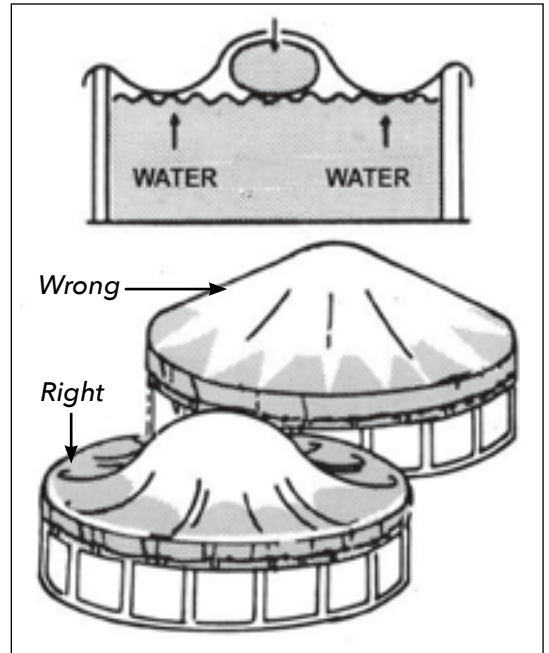

figure 1
2. Inflate ice equalizer pillow 3/4 full and secure in pool center by tying grommets end to pool side wall. These support lines should not be too tight, but allow the equalizer to float up and down on the water. (figure 1)